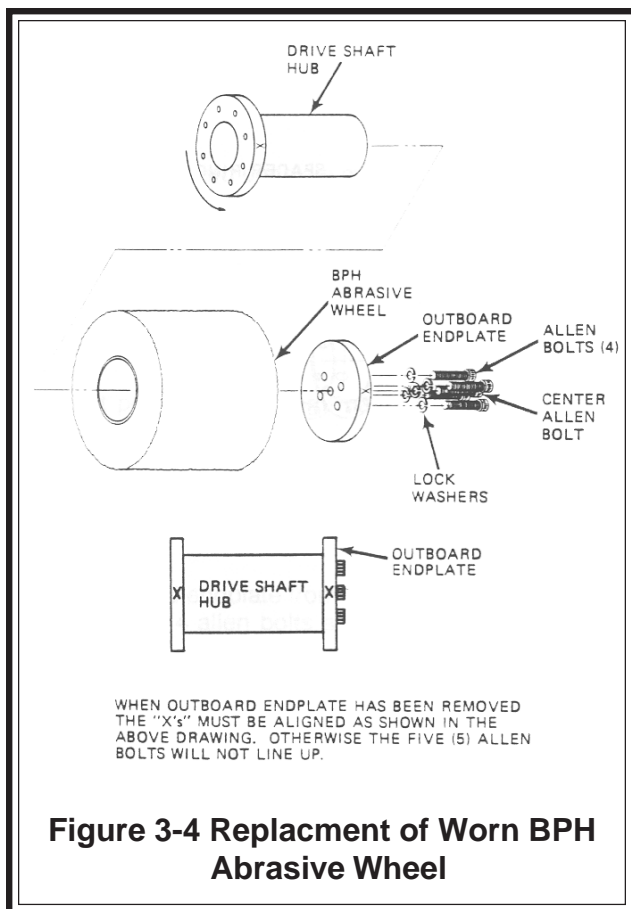

Figure 3-4 Replacment of Worn BPH Abrasive Wheel
3.2.4 Replacement of Worn BPH Abrasive Wheel (Figure 3-4)